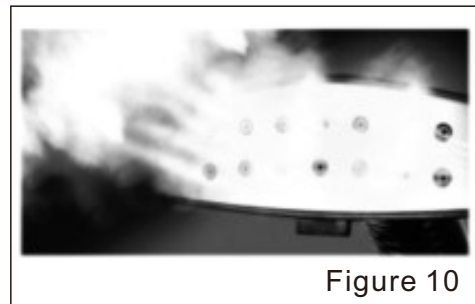

Figure 10
- ⑨ Rotate the switch once and the indicator is on, meaning that the machine is operating properly. After 43 seconds, the vapor hose nozzle erupts steam, which can be used to iron clothes, as shown in Figure 10.